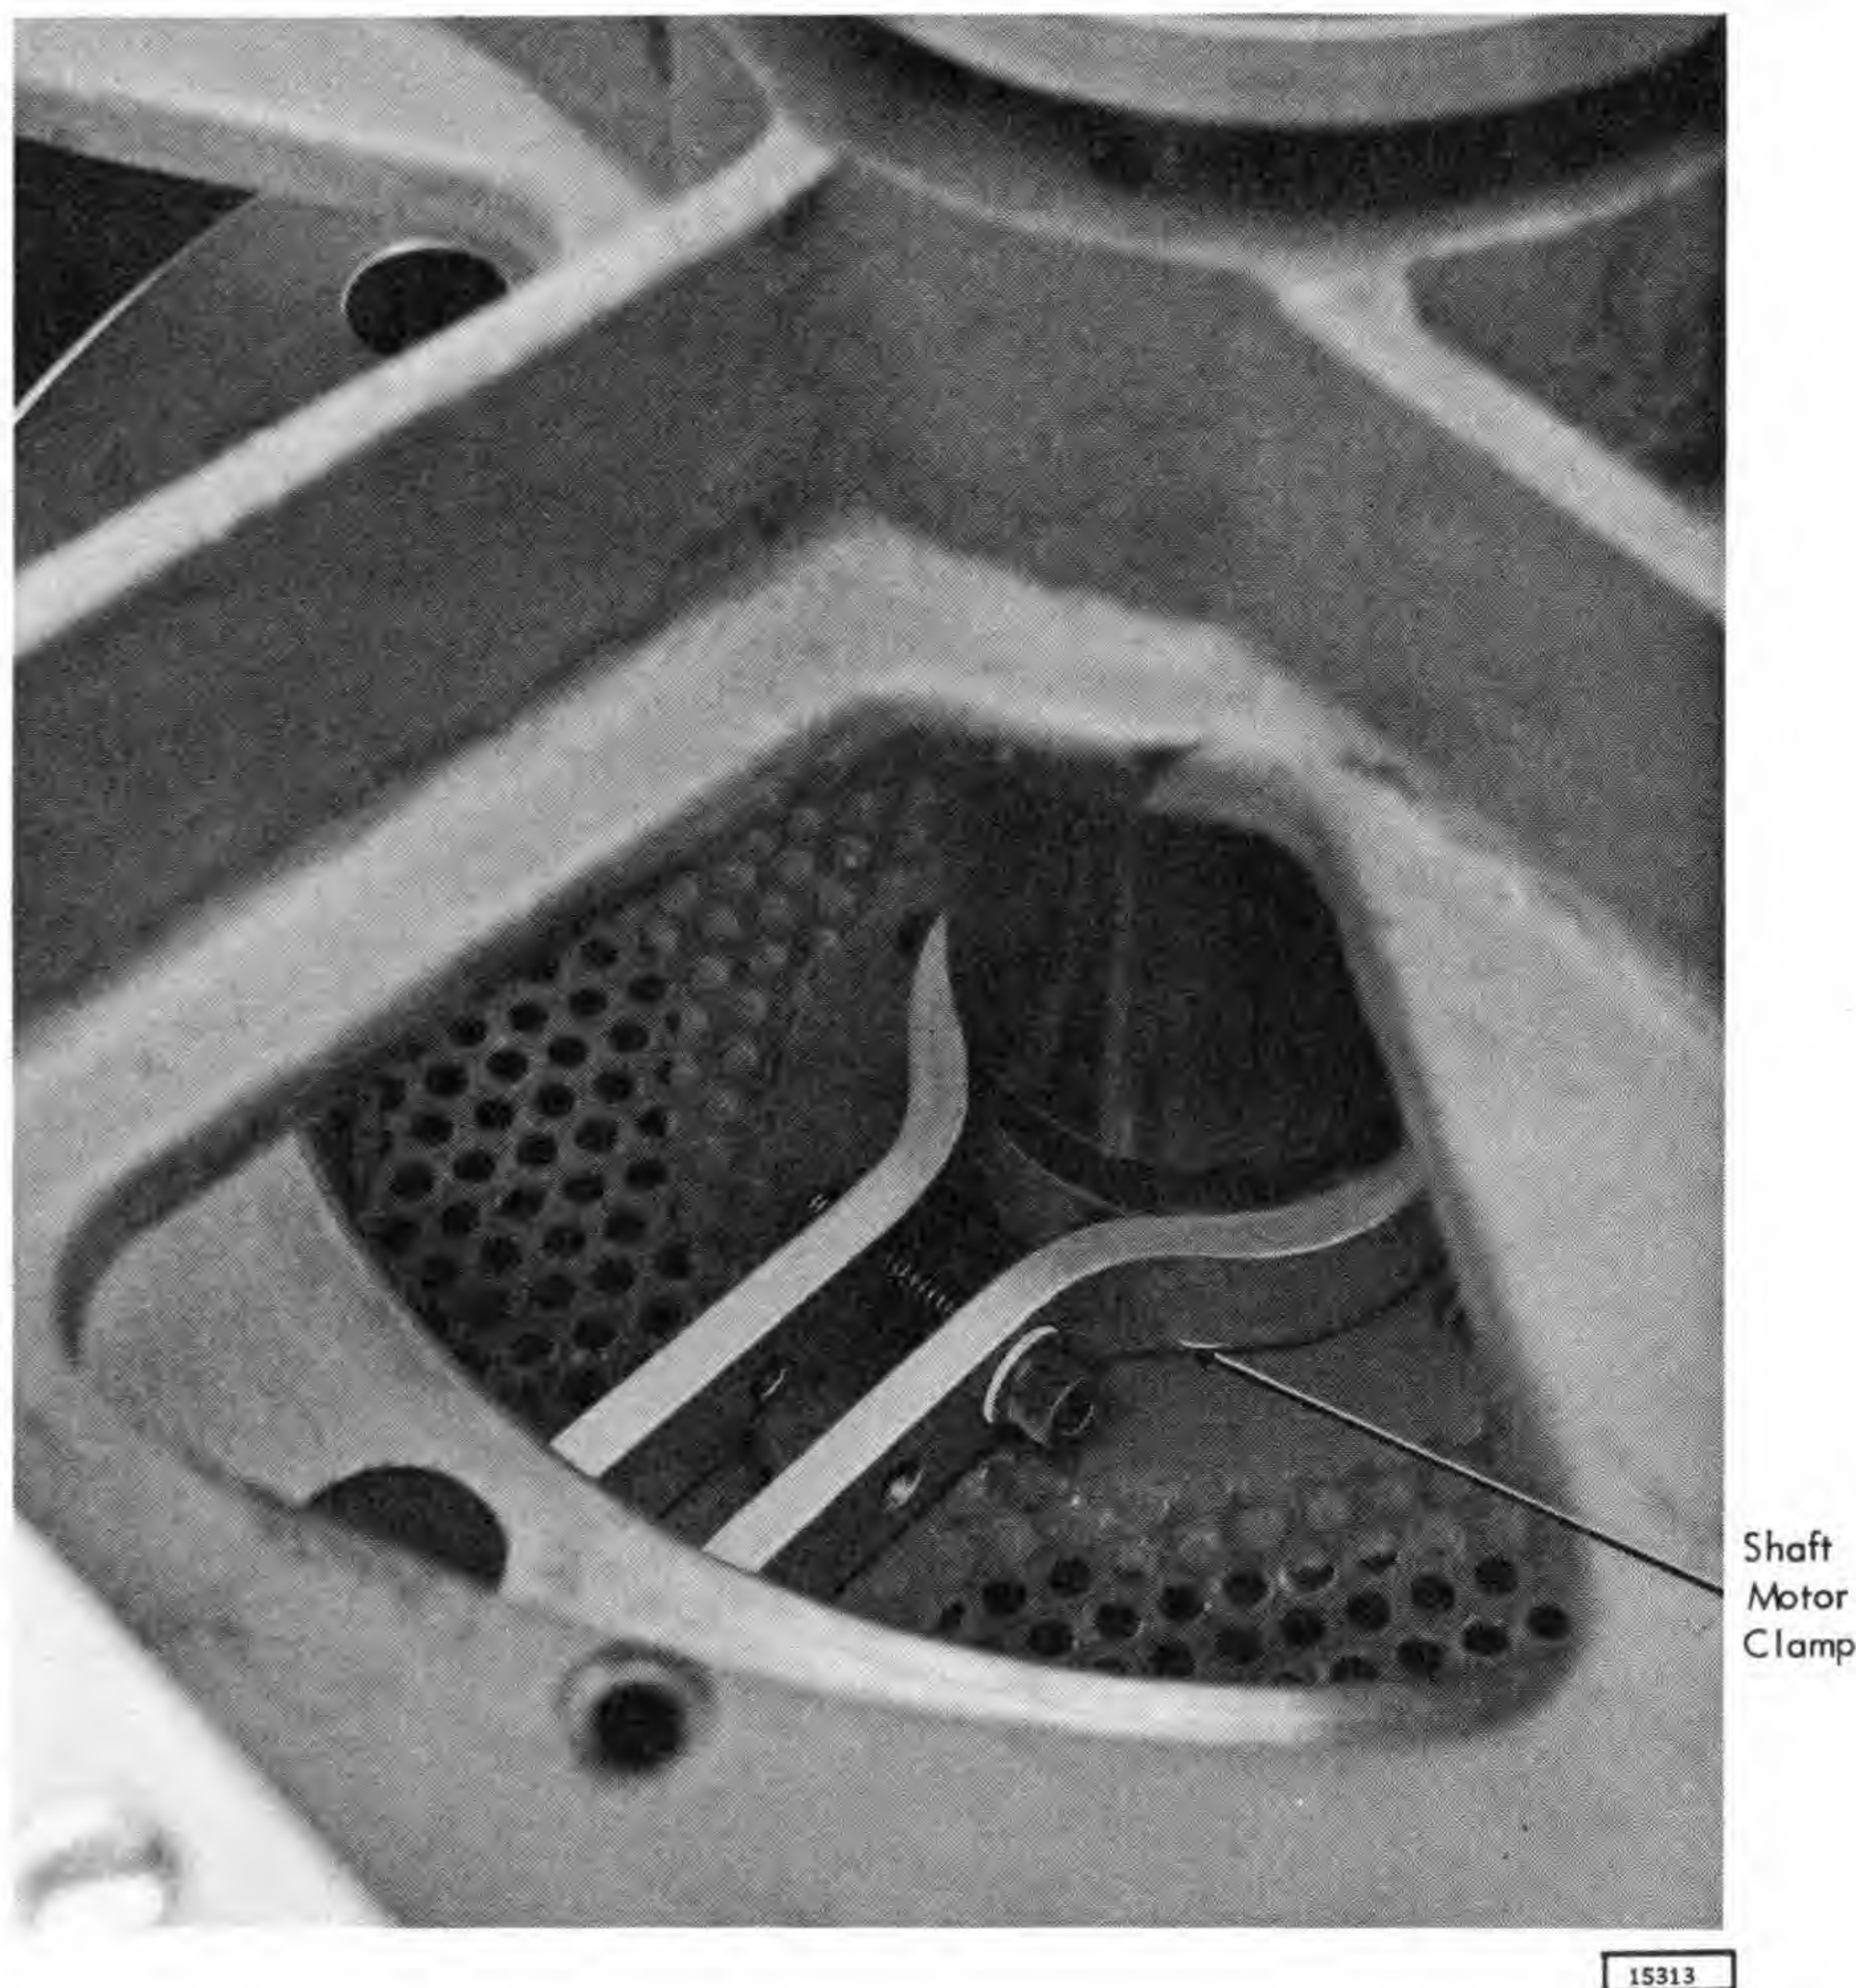

Figure 4-9. Shaft Motor Clamp
11. Lock shaft motor with shaft motor clamp to keep disks from rotating during disk scribing operation (Figure 4-9).